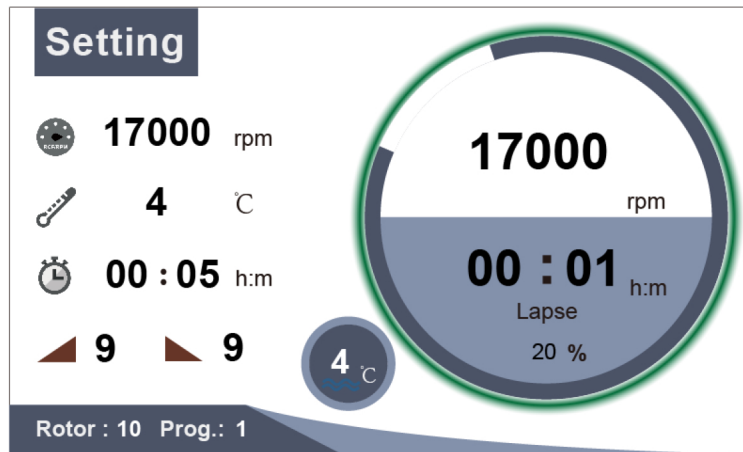

Figure 7-4 Processing Screen
(2) Press ▶ button again, start running.
■ After accelerating for 8 seconds, the interface will display the processing screen, see the Figure 7-4.